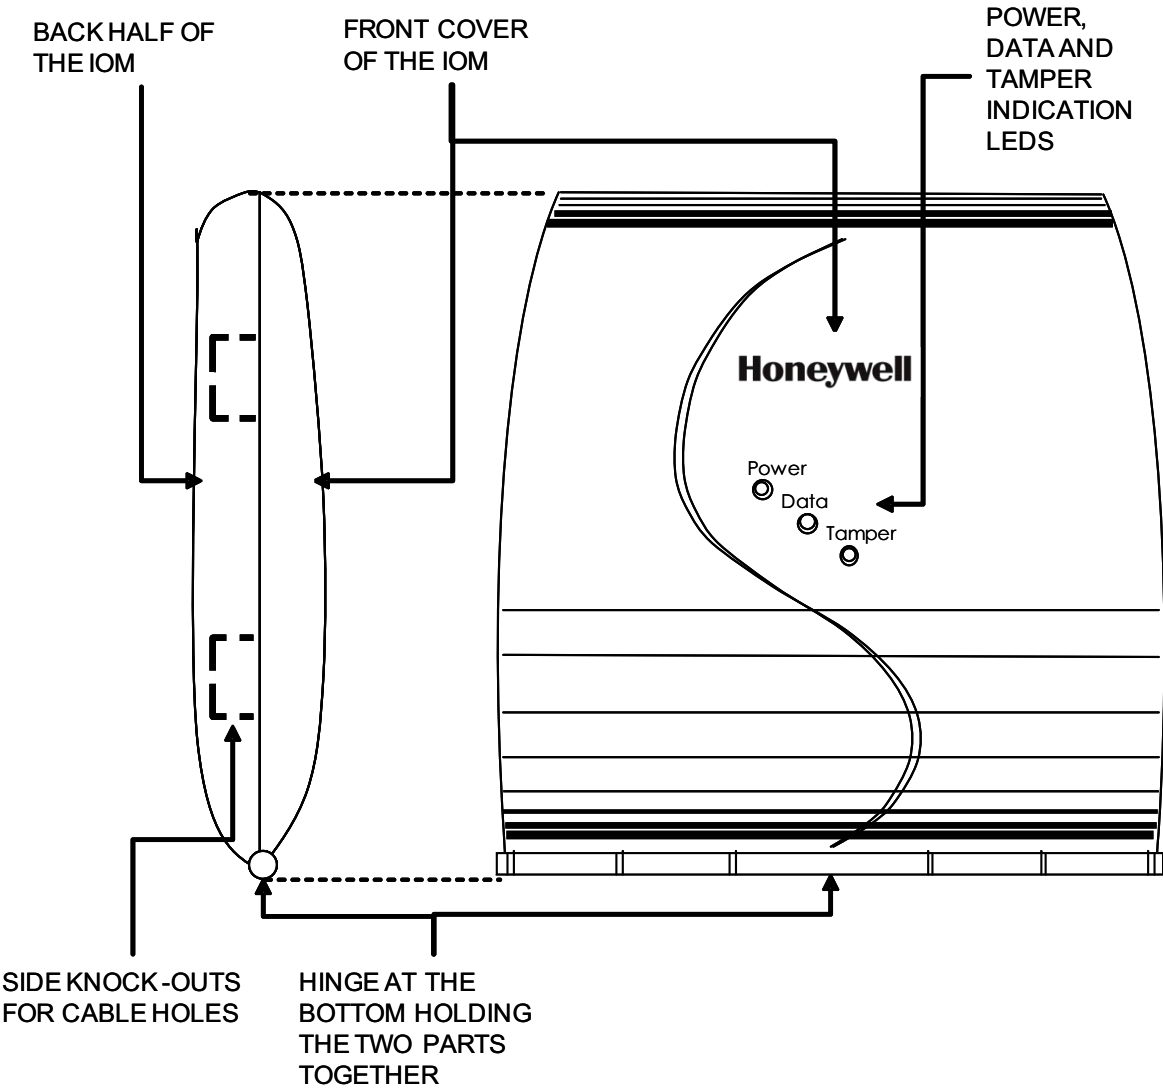
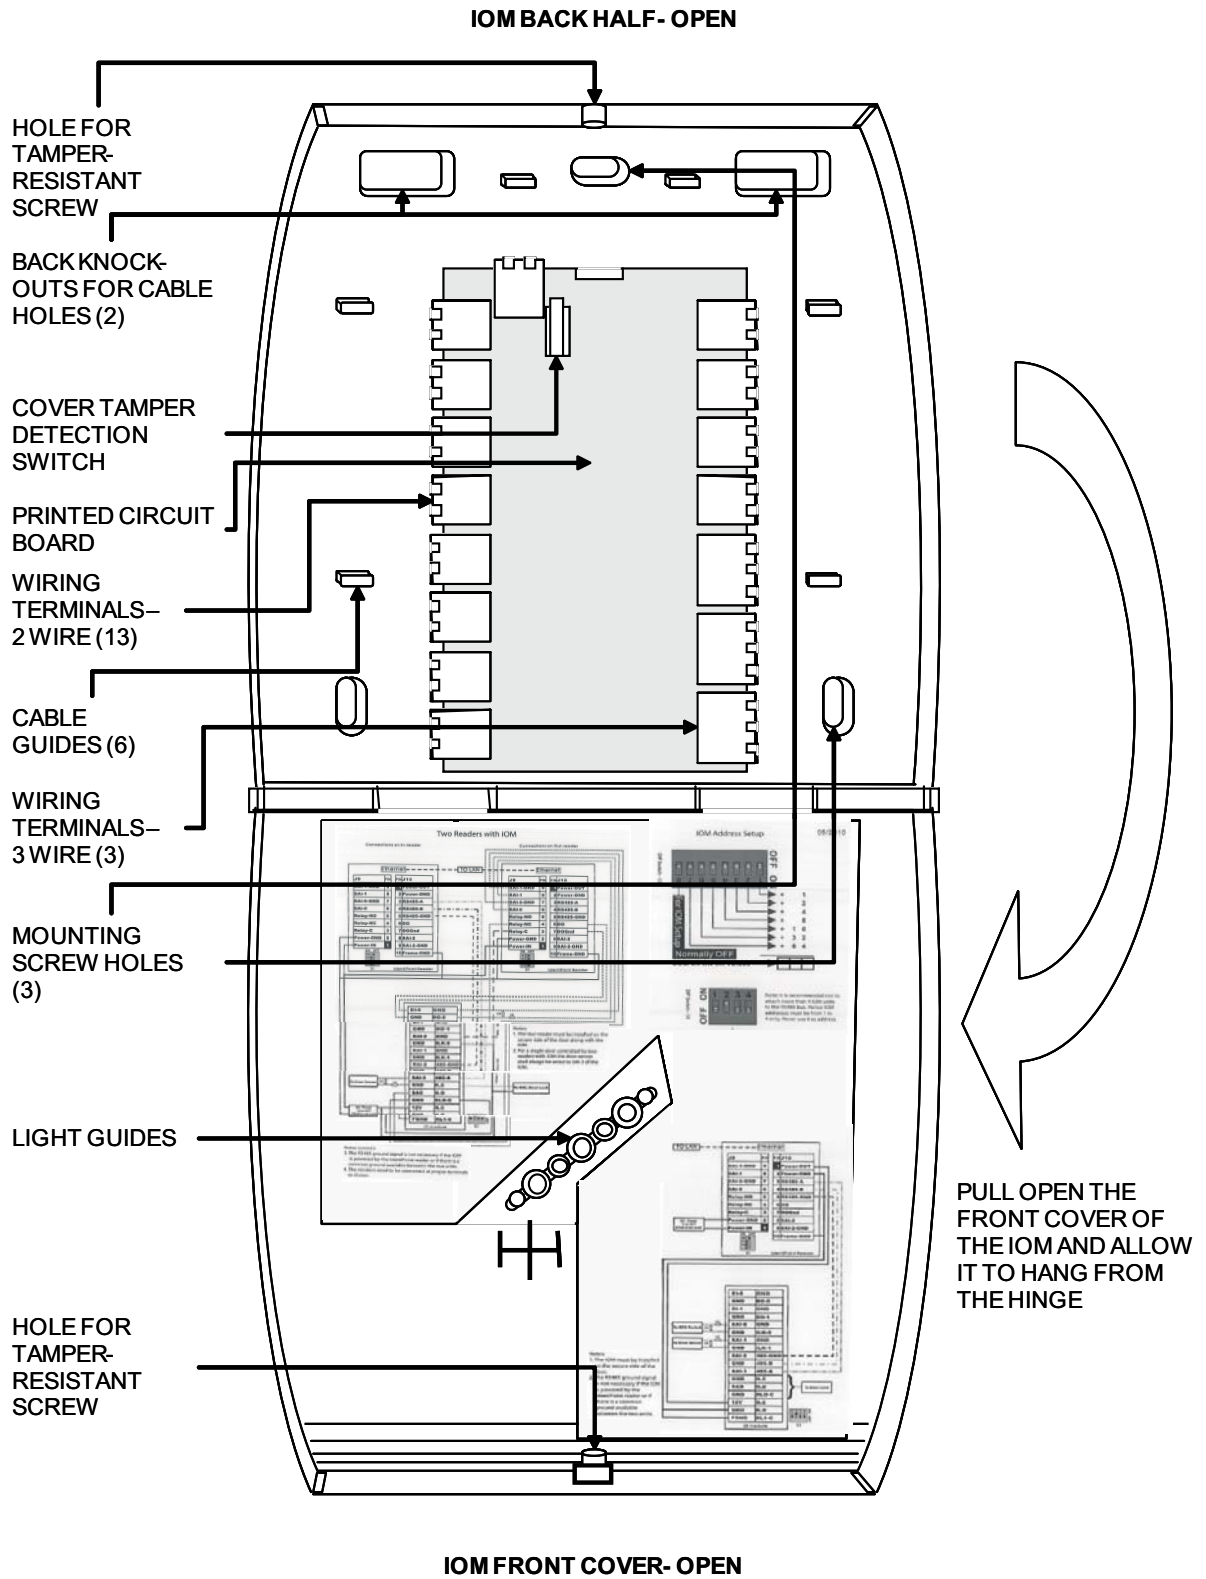

Fig. 12. Outer structure of IOM - Front and side view
Fig. 13. Internal structure and components of IOM
1. The IOM has a clamshell plastic case. The back half of the case has the electronic circuit board fastened to it while the front case cover swings open to allow access to the electronics and wiring. Pull open the front cover. This reveals the mounting holes and other components inside the IOM. See Fig.12 and Fig.13.